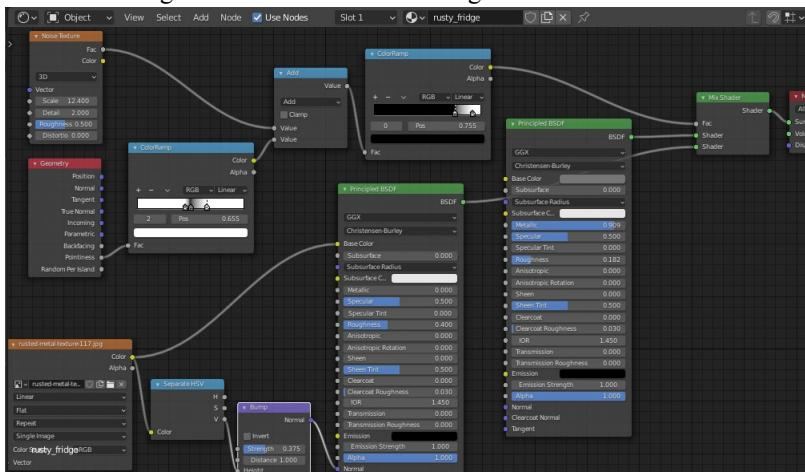

Figure 4-3 Full node tree for the rusty_fridge Material
will automatically rearrange the nodes for you. Make sure, when you add the second Principled BSDF Shader that you land in a space not overlapping any existing pipes, then connect its output to the first input of the Mix Shader. You will see that the connection from the first Shader automatically swaps over to the second input. The three shaders are the nodes with green tops on the right of Figure 4-3
Figure 4-3 shows the full layout of the nodes so you could use that to position elements as you add them to save constantly moving things round. But I advise you to add the components one by one, following the steps below, so you see the effect of each - and the potential pitfalls.
16. You need to add a color ramp node then move the stops so that all of the variation in output take place over a narrow band of input near to 0.5. You want the output to be maximum either side and only drop to 0.0 where the vertices are flat. Select **Add ▶ Converter ▶ ColorRamp** and drop the node onto the pipe coming out of the Geometry node, use the **+** button to add a third stop then slide the stops so one is on **0.5** and the others are on either side, then change the colors using the color picker at the bottom of the node so the sequence is white, black, white, as you can just about make out in Figure 4-3.